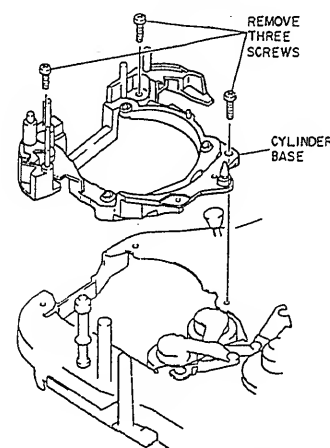

Fig. 2-81
1. Remove three (3) screws holding the cylinder base. (See Fig. 2-81)